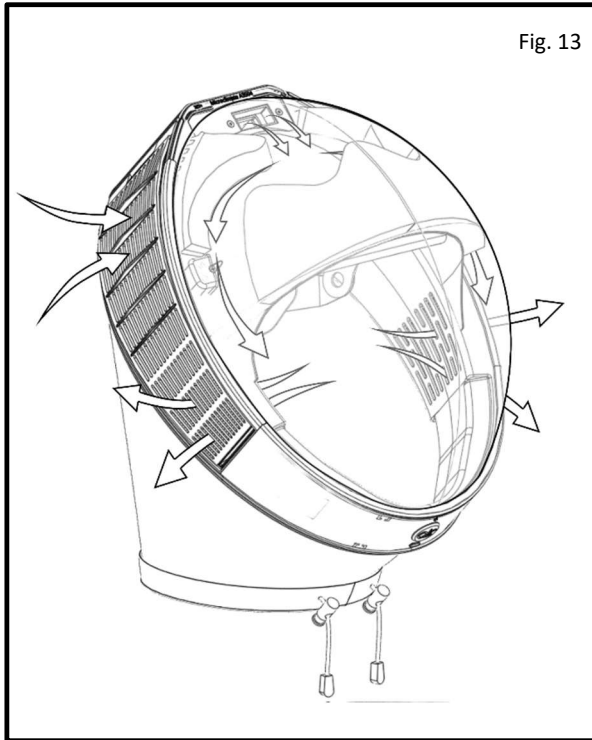

Fig. 13
- Unlike other Microclimate filters, each AIR3 filter is a compact combination of an inlet HE filtration section (larger area) and outlet filter section (Fig. 13). A spark arrestor is integrated into each filter.